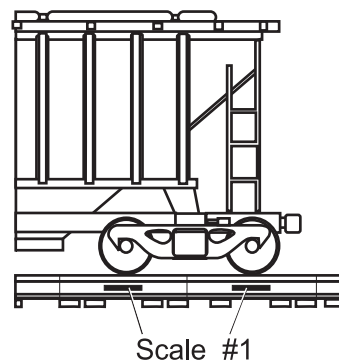

Figure 1.7 First truck positioned over scale
1. Move the first end of the rail car to be weighed onto the scale. Position the rail car on the scale as shown in Figure 1.7.